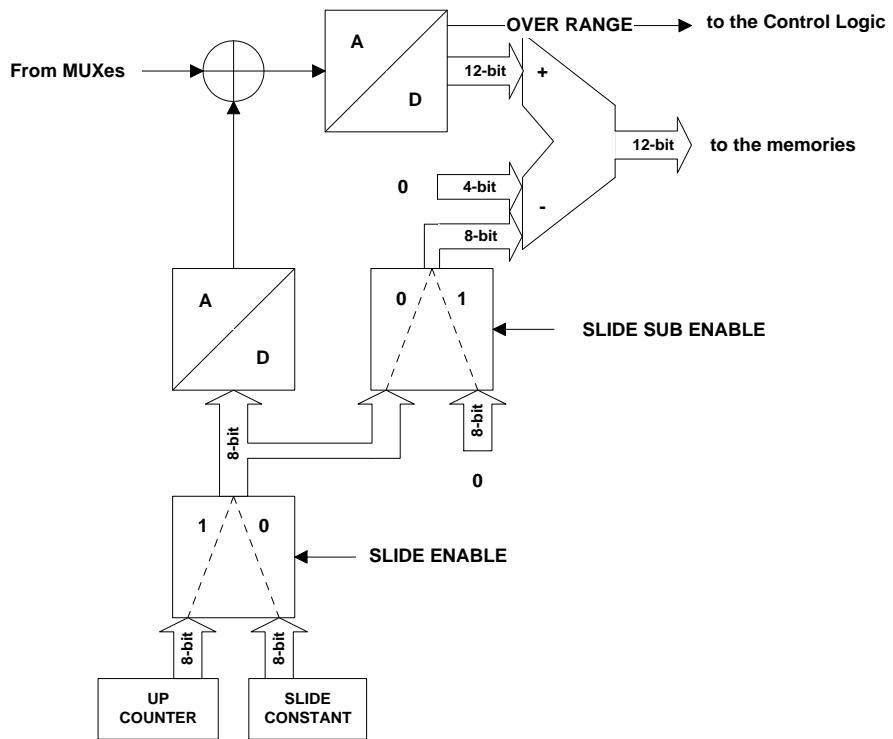

Fig. 2.4: Block diagram of the sliding scale section
The output of each PEAK section is multiplexed, by group of 4 channels, and subsequently converted by two fast 12 bit ADCs, each of which operates the conversion on a group of 8 channels (Block A and Block B ADCs). The ADC section supports the sliding scale technique to reduce the differential non-linearity (see references [1], [2]). This technique (see Fig. 2.4) consists in adding a known value to the analog level to be converted, thus spanning different ADC conversion regions with the same analog value. The known level is then digitally subtracted after the conversion and the final value is sent to the threshold comparator.
* This feature is available from firmware releases 5.1; for earlier firmware releases the thresholds can be programmed only in 16 ADC counts steps (as illustrated in Fig. 2.4).